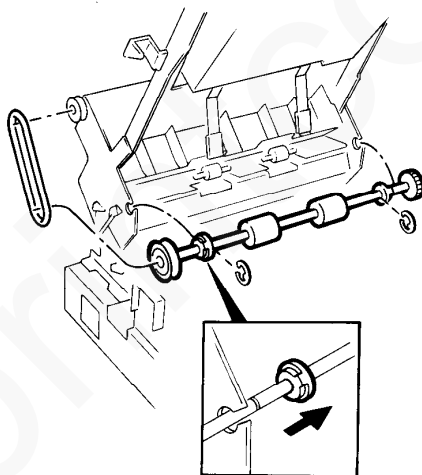

Figure 1. Lower exit roller assembly
4. Remove the belt on the lower exit roller assembly (figure 1).
5. Remove the E-rings from both ends of the roller (figure 1).